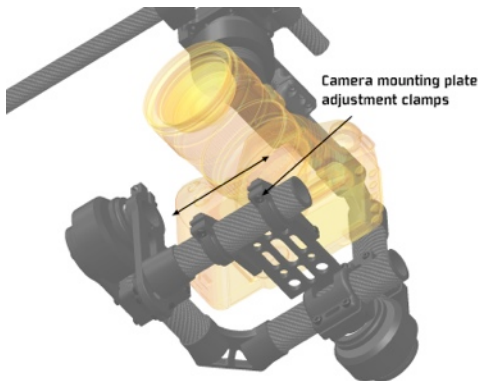

Figure 14. Mounting plate adjustment
- 2) moving the camera mounting plate left/right on the camera mounting tube. This is done by loosening the camera mounting plate clamps and sliding the mounting plate along the mounting tube. Do not over-tighten the clamps. The clamps do not require much torque on the clamp screws. Figure 14.